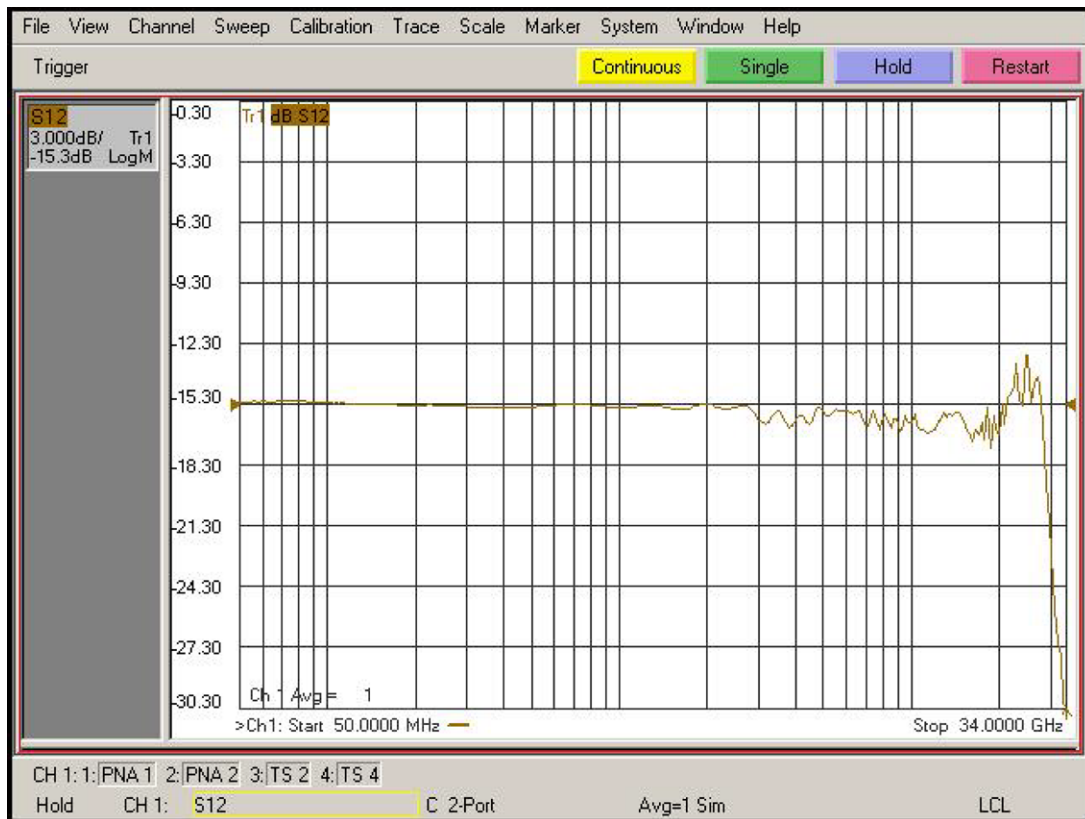

Figure 6 De-embedded “Vout” trace
- c. Display should look like Figure 6. If it looks noticeably different, the probe tip wires may not be making contact under the pinchers.